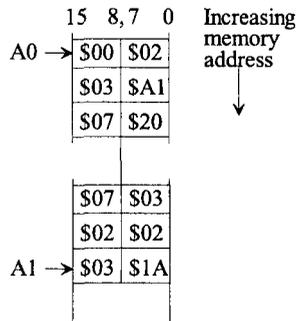

FIGURE P10.19
- 10.19 Write a 68000 assembly program to add two 48-bit data items in memory as shown in Figure P10.19. Store the result pointed to by A1. The operation is given by